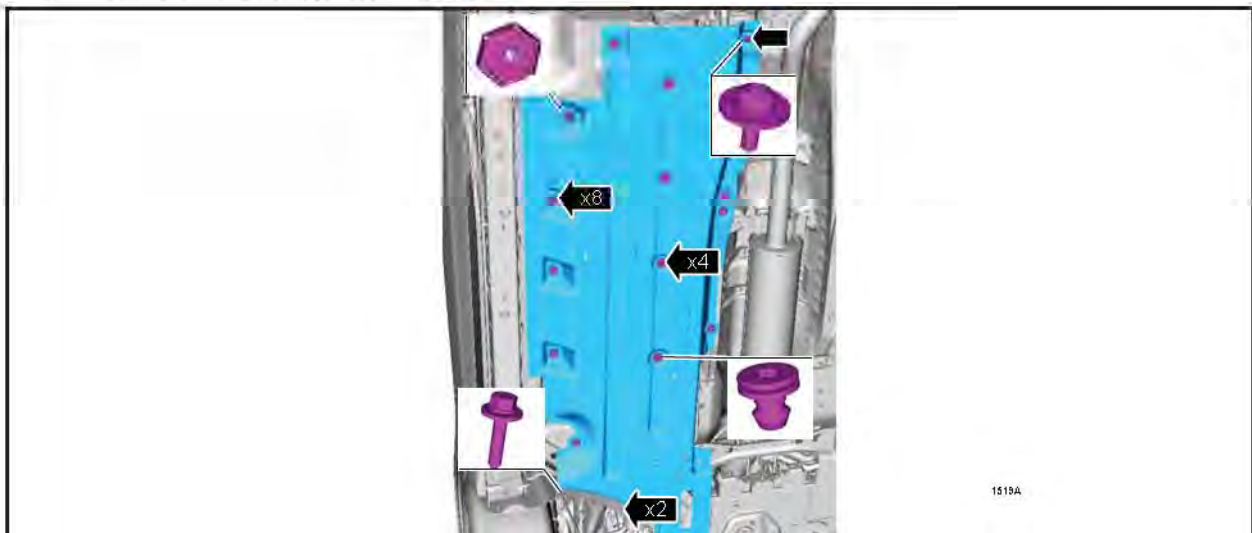

FIGURE 1
2. Remove both underbody side shields. See Figure 1.
2. Install both underbody shields. See Figure 1.